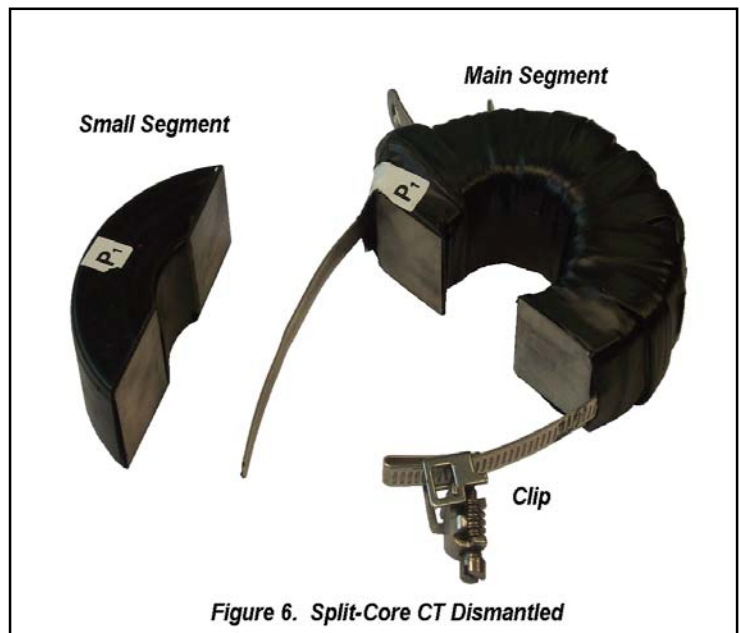

Figure 6. Split-Core CT Dismantled
3. Fit the small segment around the cable and up against the main segment, taking care that it is the correct way round. The side labelled **P1** must point towards the supply. The **P1** labels must both be on the same side of the CT (see Fig. 6 right).